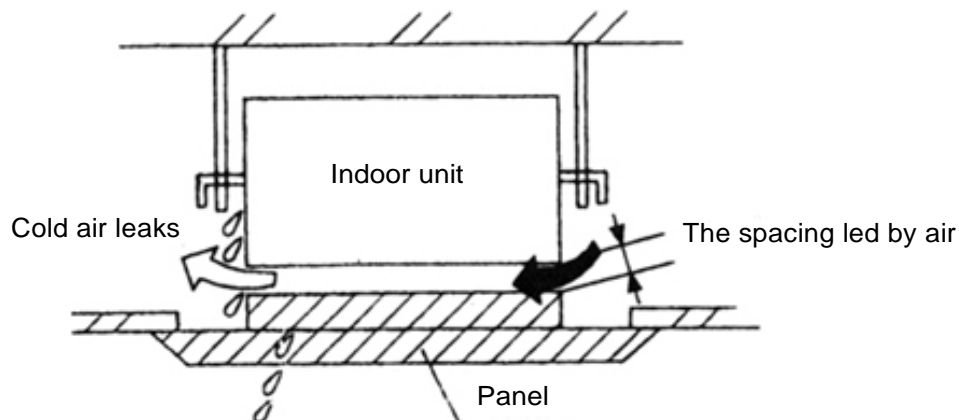

Fig 2 0 : Ill working condition result from the spacing between indoor unit and the panel
The disorder air current blown out will lead the horizontal blade and inside surface of the unit condensing and water splashing , see Fig 2 0 :
4) The connection between the indoor unit and the panel (refer to Fig 2 1)
- ① Connect ties -in of swing motor lead (on the decoration panel) ;
- ② Connect those ties -in properly, otherwise the swing board won' t work ;
- ③ Make sure that the lead of swing motor be not trapped between the indoor unit and the decoration panel .